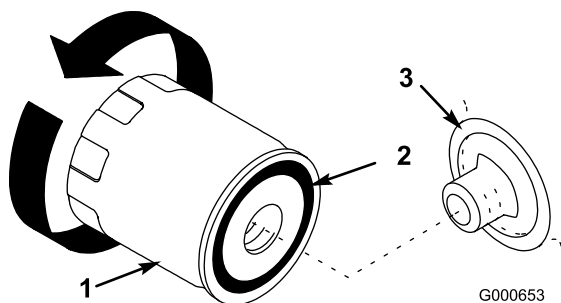

Figure 25
7. Remove the old filter and wipe the filter adapter (Figure 25) gasket surface.
10. Apply a thin coat of new oil to the rubber gasket on the replacement filter (Figure 25).
11. Install the replacement oil filter to the filter adapter. Turn the oil filter clockwise until the rubber gasket contacts the filter adapter, then tighten the filter an additional 1/2 turn (Figure 25).